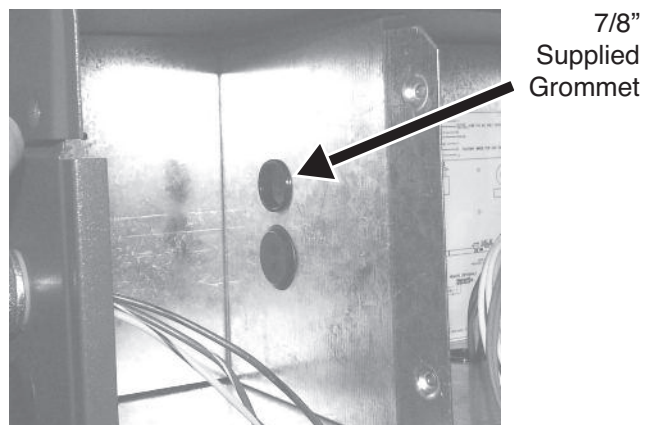

Fig. 18
18. Remove and replace the 7/8" plug with the provided 7/8" grommet (located on the left side of the control panel). See Fig. 18.